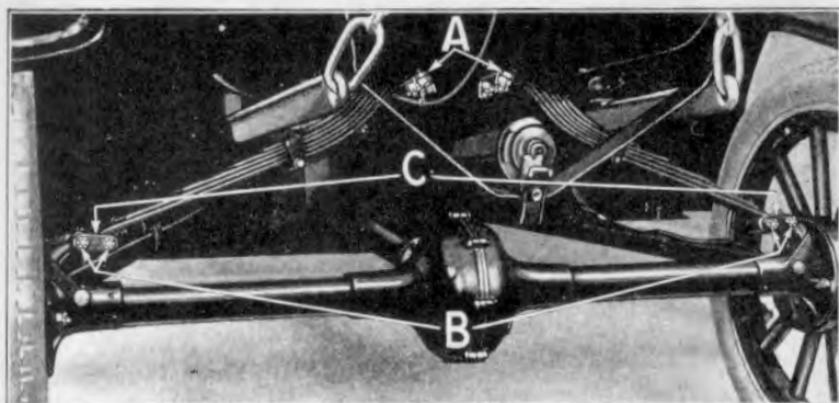

Fig. 364
- 624 Lift up rear end of car with chain falls and lifting hooks (See Fig. 364).
- 657 Lift up rear end of car with chain falls and lifting hooks (See Fig. 364).